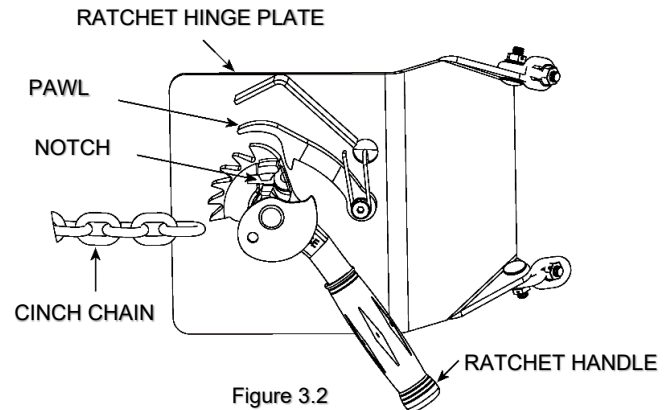

Figure 3.2
2. Using the "LIFT" control as described in "Machine Description - Controls", position the drum holder assembly with the back band at the middle of the drum. (Figure 3.2). With the ratchet plate swung open and the cinch chain hanging from the chain hook, push the unit until the back band rests firmly against the drum. Some adjustment to the tilt angle of the saddle may be necessary to ensure band fits flush on the drum.
3. Attaching the drum: Drape the chain across the front of the drum and engage a link into the notch in the ratchet (Figure 3.2). Turn the ratchet clockwise to tighten the chain. If the ratchet turns until the pawl is beyond the last ratchet tooth, turn the ratchet back and slide the next link into the ratchet notch and try tightening again. The chain must be held tightly against the drum with the pawl engaged securely in the ratchet teeth.